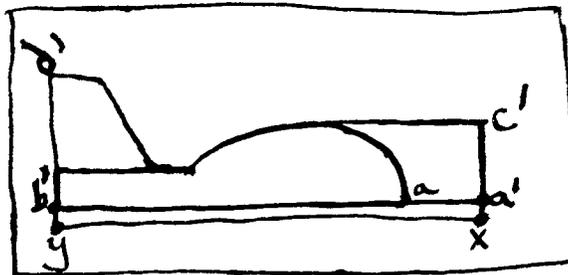

Figure 3
6. Measure on a straight line the distance from a to b on to the paper. We refer now to these points as a' and b' . Place neck end of folded top pattern at point b' on paper. Point a of the top pattern will be some distance away from the point a' that you drew on the paper. Draw a vertical line from point a' as high as top pattern's widest point. Draw straight line from case top pattern to meet point c' . Outline rest of top pattern, measuring height of lute peg box, and angle, allowing padding room. Add one inch more padding space from b' to y and from a' to x . Join points y and x *Figure 3*.